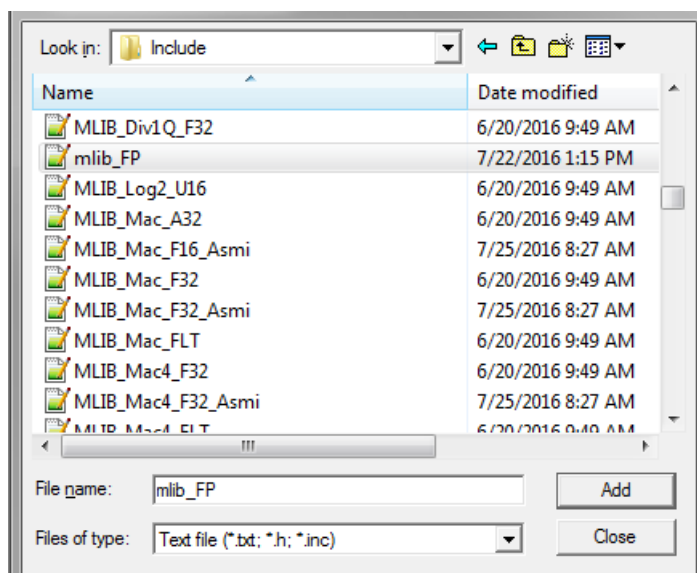

Figure 1-29. Adding .h files dialog
4. Navigate into the library installation folder C:\NXP\RTCESL\CM4F_RTCESL_4.6_KEIL\MLIB\Include, and select the *mlib_FP.h* file. If the file does not appear, set the Files of type filter to Text file. Click Add. See Figure 1-29.